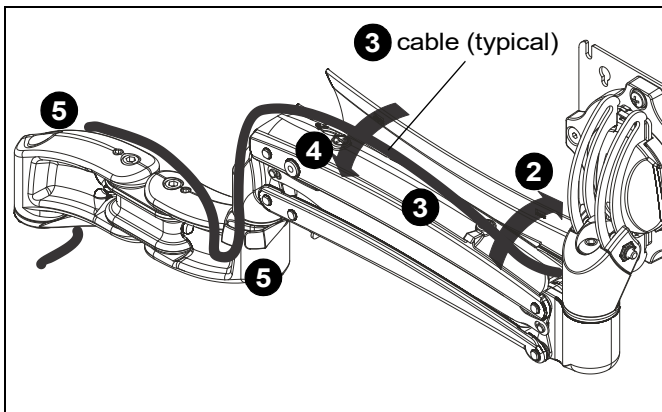

Figure 23
3. Route cables through cable management channel on upper arm. (See Figure 23)
4. Close cable management covers on monitor arm. (See Figure 23)
5. Route cables through cable clips on lower arm(s). (See Figure 23)